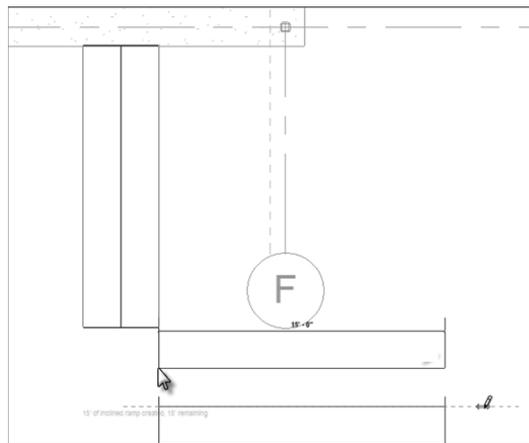

FIGURE 10.83: The second leg of the ramp
19. Pick a point about 6'-0" (1800 mm) below the end of the ramp, in alignment with the right boundary, as shown in Figure 10.83. After you pick the second point, the view should read "30' (10000 mm) of inclined ramp created, 0 remaining."
20. Move your cursor to the right until the ramp stops (see Figure 10.83).